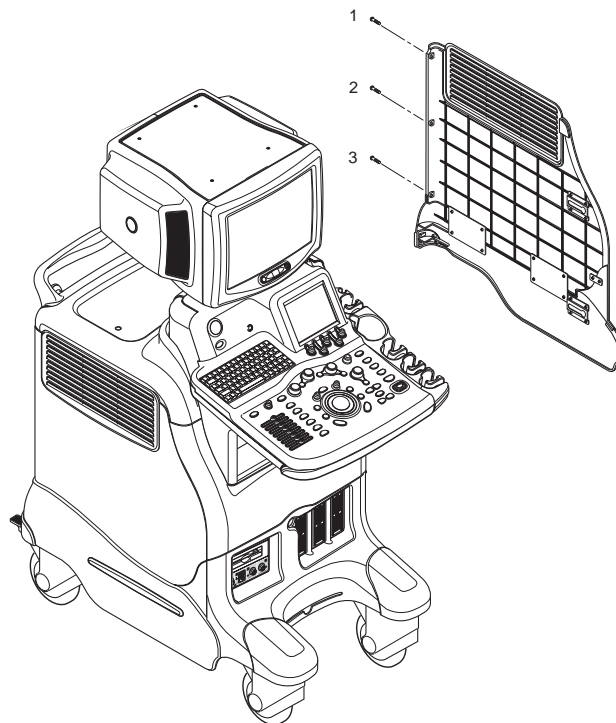

Figure 8-49 Removing the right cover
- 3.) Remove the Right Cover. Refer to Figure 8-49.